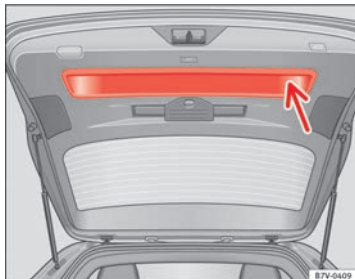

Fig. 54 Tailgate open:
- Grab the handgrip inside the tailgate → fig. 54 (arrow).